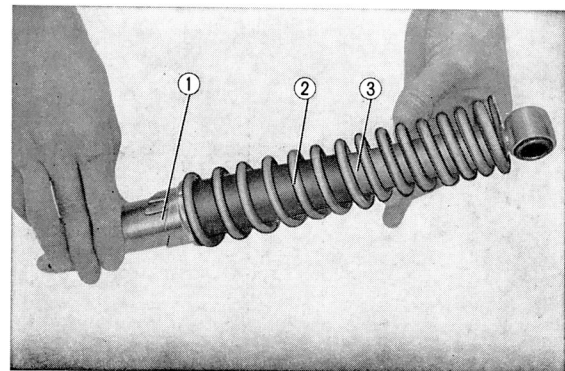

Fig. 4.70 Assembling the rear cushion
1. Assemble the under seat, spring and upper case to the damper. Compress the assembly using a special tool and lock the assembly with the cushion spring seat. (Fig. 4.70)